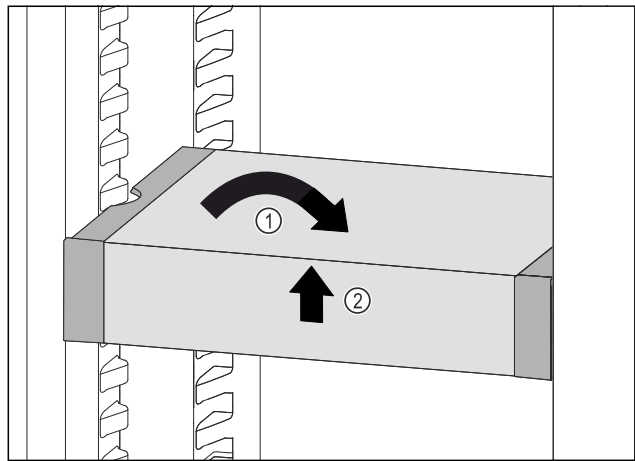

Fig. 90
- ▶ Set VarioSafe straight. *Fig. 90 (1)*
- ▶ Lift VarioSafe at the front. *Fig. 90 (2)*